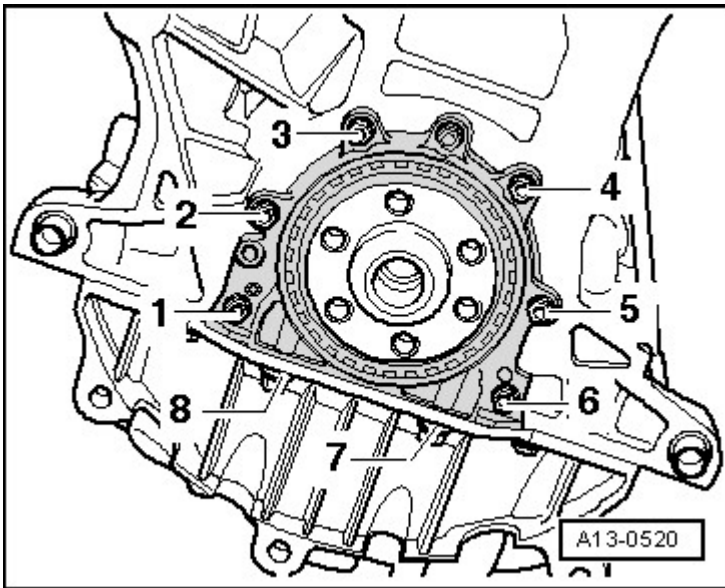

Fig. 8: Rear Sealing Flange Bolts
- **Tightening sequence** , refer to **Fig. 8**